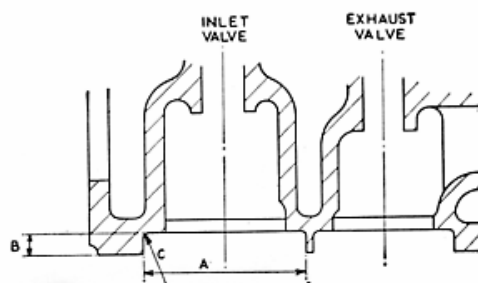

Fig. G.12.
2. Using the new valve guide bore as a pilot, machine the insert recess in the cylinder head face to the dimensions shown in Fig. G.12.